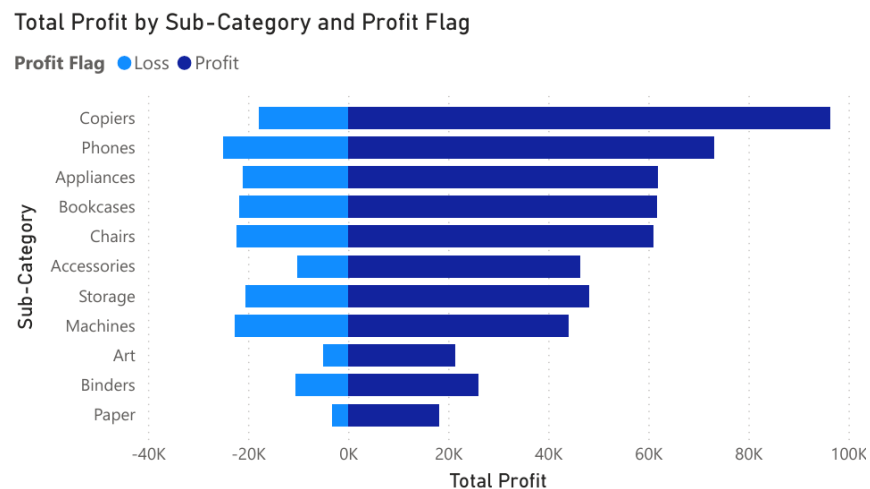

Figure 4: Profit by Sub-Category with conditional colour (diverging bar).
- **Fix or drop Tables and Supplies.** Figure 4 shows Tables lose money outright; re-price, renegotiate supply cost, or delist.